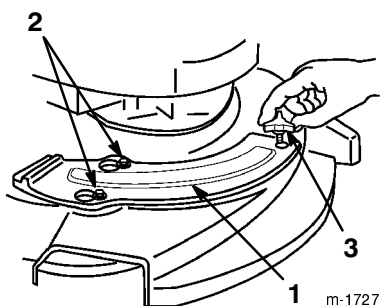

Figure 48
4. You do not need to loosen or remove the two shoulder bolts on the housing that protrude through the slotted holes in the mulch plate (Fig. 48). The mulch plate moves over the shoulder bolt heads.
6. Secure with a knob (Fig. 48).